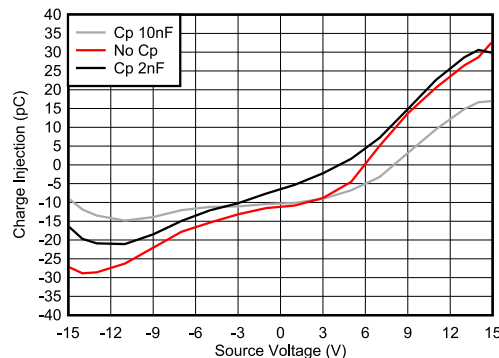

Figure 8-3. Charge Injection Compensation
The TMUX7219-Q1 contains specialized architecture to reduce charge injection on the source (Sx). To further reduce charge injection in a sensitive application, a compensation capacitor (C_p) can be added on the drain (D). This will ensure that excess charge from the switch transition will be pushed into the compensation capacitor on the drain (D) instead of the source (Sx). As a general rule of thumb, C_p should be 20× larger than the equivalent load capacitance on the source (Sx). Figure 8-3 shows charge injection variation with source voltage with different compensation capacitors on the drain side.